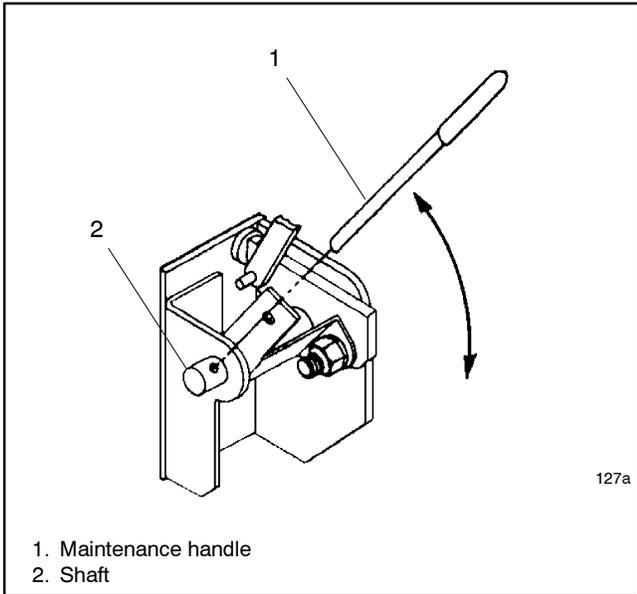

Figure 2-9 Manual Operation, 225-400 Amp Open-Transition Switches and 150-400 Amp Programmed-Transition Switches (one operator shown)
2. **225–400 amp switches:** See Figure 2-9. Insert the maintenance handle into the hole in the shaft on the left side of the operator.